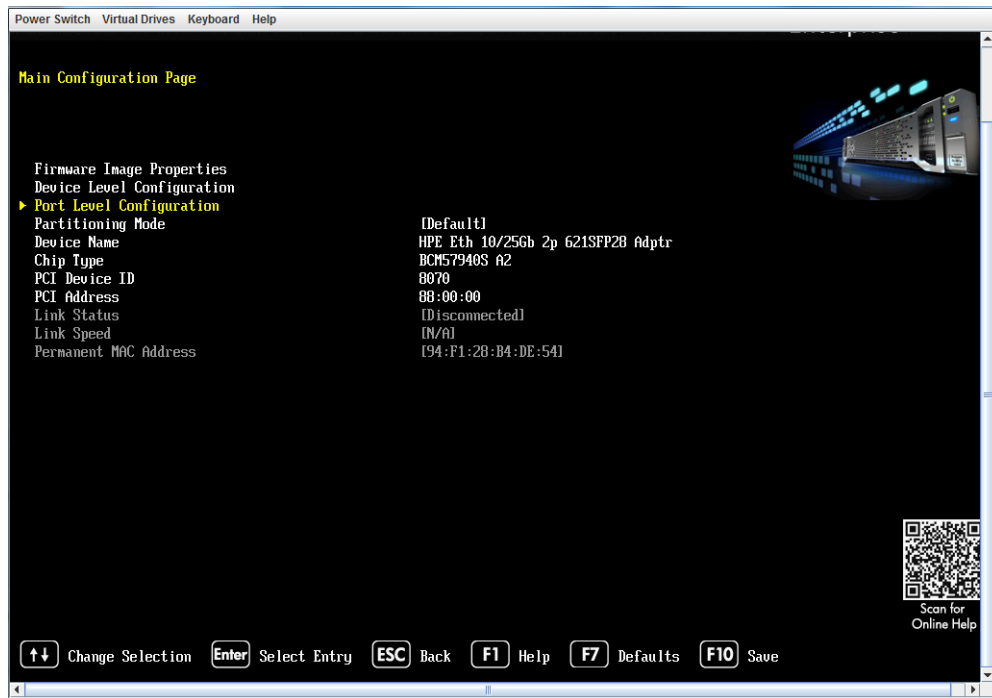

Figure 4-3. Port Level Configuration
5. From the Main Configuration Page, select **Port Level Configuration** (Figure 4-3).